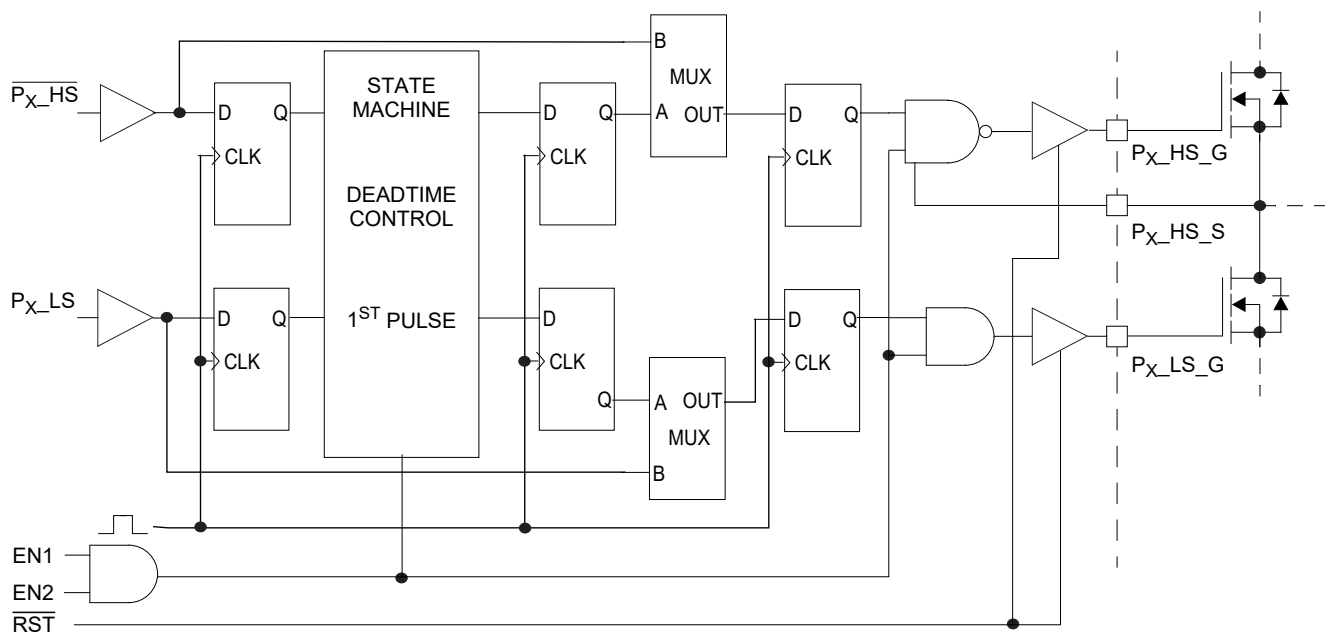

Figure 6. Deadtime control delays
43. These delays include all logic delays except deadtime. All internal logic is synchronous with the internal clock. The total delay includes one clock period for state machine decision block, an additional clock period for FULLON mux logic, input synchronization time and output driver propagation delay. Subtract one clock period for operation in FULLON mode which bypasses the state machine decision block. Synchronization time accounts for up to one clock period of variation. See Figure 6.